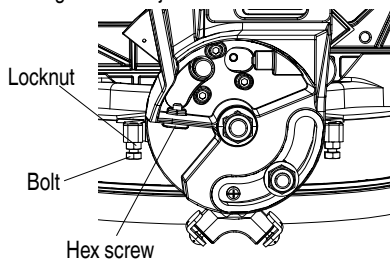

Fig. 22
- (2) Loosen the bevel lock handle and tilt the gear case completely to the right.
- (3) Using a combination square, check to see if the blade is 45° to the table.
- (4) To adjust, tilt the gear case to 0°, loosen the locknut, and turn the bolt in or out to increase or decrease the angle as shown in Fig. 22.
- (5) Tilt the cutting arm back to the right, and recheck alignment.
- (6) Repeat steps until the blade is 45° to the table. Once alignment is achieved, tighten locknut and bevel lock handle when alignment is achieved.